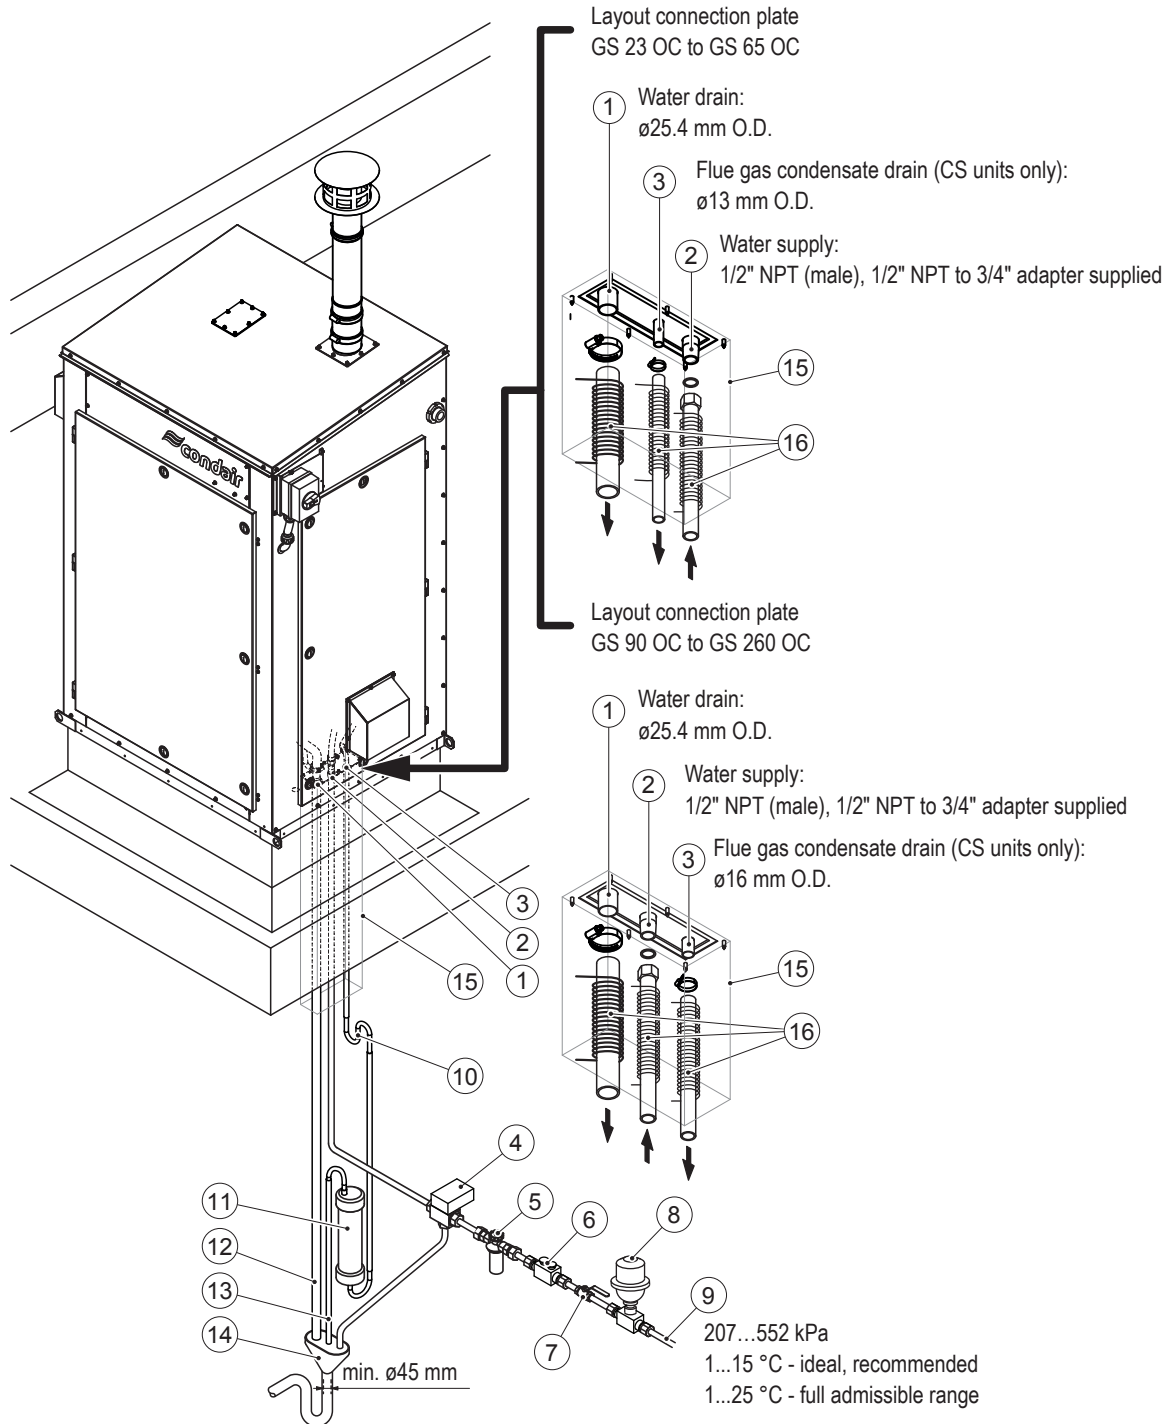

Fig. 12: Overview water installation (Condair GS 65 CS unit shown)
The water installation must be carried out in accordance with Fig. 12, the notes on water installation in Section 5.6.2 on page 41 and the applicable local codes on water installation.
The water supply is to be carried out according to Fig. 12 on page 40 and the applicable local plumbing codes. Refer also to Section 5.6.3 on page 43 regarding freeze protection of the supply line.
The water drain is to be carried out according to Fig. 12 on page 40 and the applicable local plumbing codes.
The flue gas condensate drain is to be carried out according to Fig. 12 on page 40 and the applicable local plumbing codes.
- Connect a flue gas condensate drain hose (CS models only) to the corresponding connector of the connection plate in the base of the unit, and secure it with a hose clamp – refer to Fig. 12 on page 40. The hose must be rated to 100 °C.